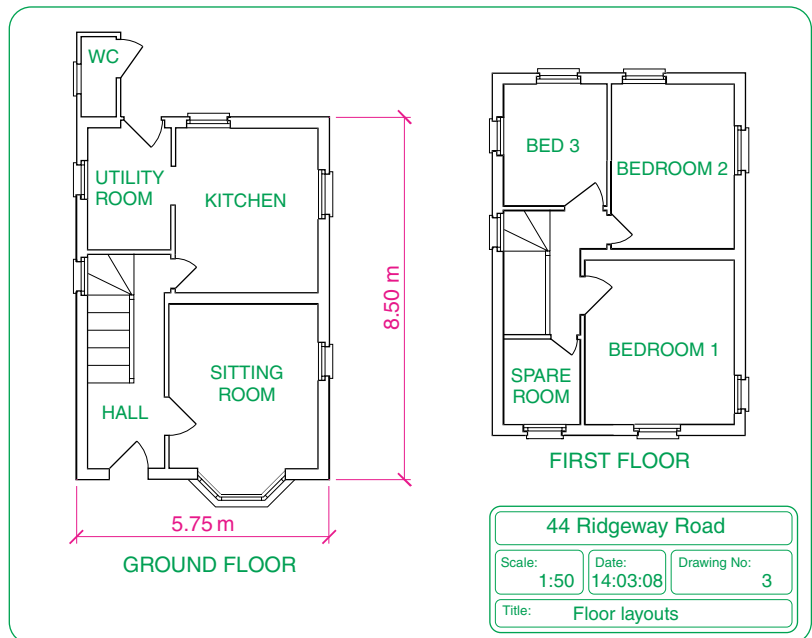

Fig. 12.3 A floor layouts drawing of the original house
3. Floor layouts of the original house, drawn to a scale of **1:50** (Fig. 12.3).